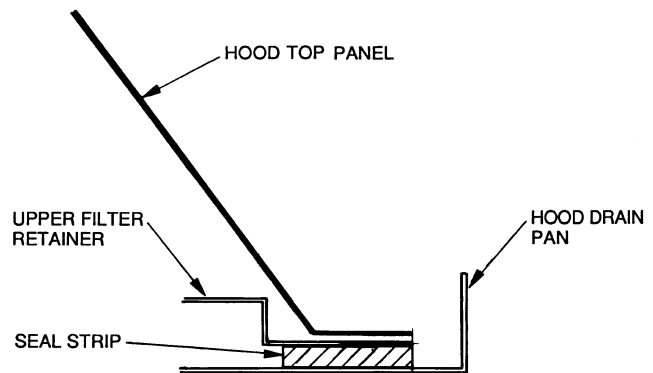

Fig. 19 — Seal Strip Location
1. Attach seal strip to upper filter retainer. See Fig. 19.